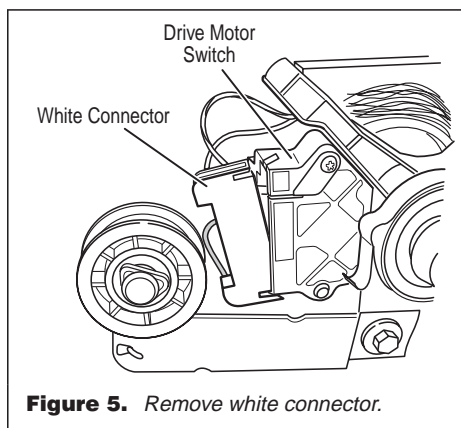

Figure 5. Remove white connector.
6. Remove the white connector from the drive motor switch. See figure 5.